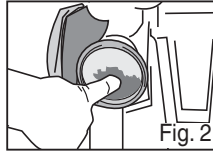

Fig. 2
- Remove dust cup. Set air path knob to 'floors.' Use finger to check for debris (Fig 2).